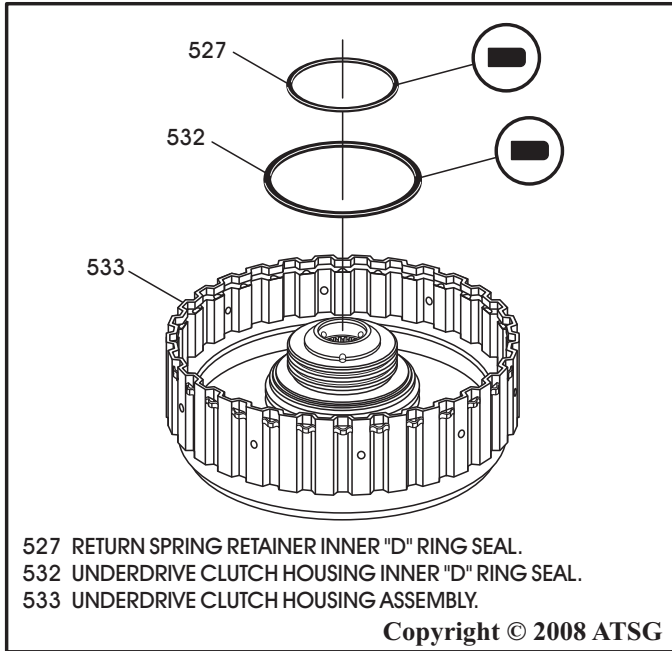

Figure 120
4. Install underdrive clutch piston inner "D" ring seal, as shown in Figure 120.
5. Install underdrive clutch return spring retainer inner "D" ring seal, as shown in Figure 120.